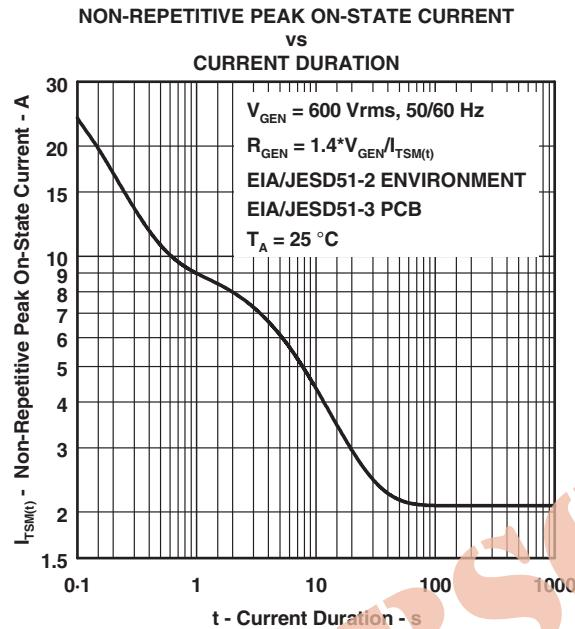

Figure 8.
5. EIA/JESD51-2 environment and EIA/JESD51-3 PCB with standard footprint dimensions connected with 5 A rated printed wiring track widths. See Figure 8 for the current ratings at other durations. Derate current values at $-0.61\%/\text{ }^\circ\text{C}$ for ambient temperatures above 25°C
The protector can withstand currents applied for times not exceeding those shown in Figure 8. Currents that exceed these times must be terminated or reduced to avoid protector failure. Fuses, PTC (Positive Temperature Coefficient) resistors and fusible resistors are overcurrent protection devices which can be used to reduce the current flow. Protective fuses may range from a few hundred milliamperes to one ampere. In some cases, it may be necessary to add some extra series resistance to prevent the fuse from opening during impulse testing. The current versus time characteristic of the overcurrent protector must be below the line shown in Figure 8. In some cases there may be a further time limit imposed by the test standard (e.g. UL 1459 wiring simulator failure).